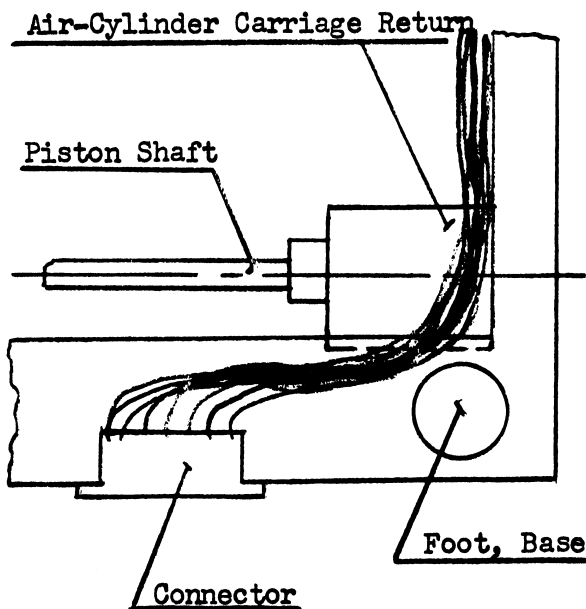

Fig. 16 PISTON SHAFT
1. PISTON-SHAFT Piston-shaft of the air-cylinder-carriage-return. (Page 7, Fig. 16)